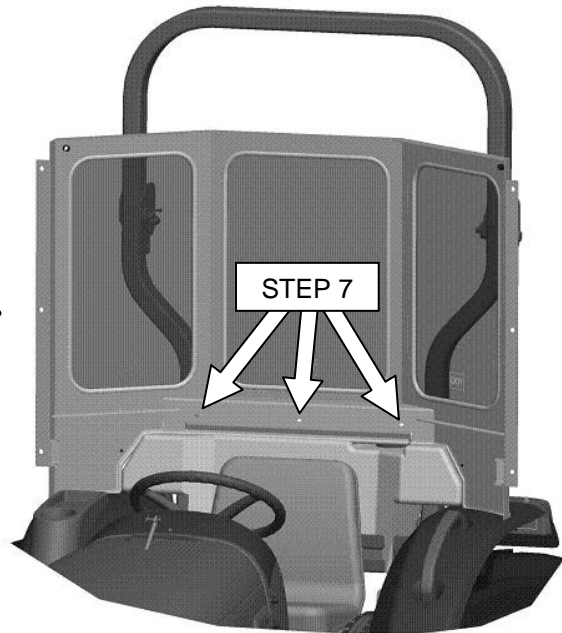

Figure 4
7. Place rear window panel assembly onto rear mount and secure using (3) 3/8 x 3/4" long head bolts, (3) 5/16" flat washers and (3) 3/8" flange nuts. See Figure 4.